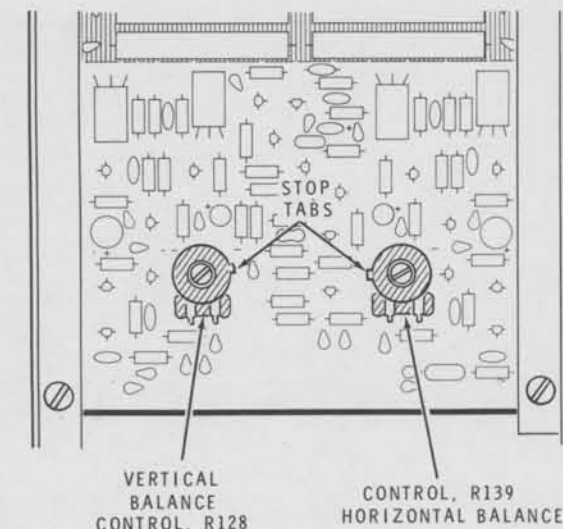

Figure 2-2
Refer to Figure 2-2 (fold-out from Page 65) for the following adjustments.
- () Slowly turn the HORIZONTAL GAIN control clockwise. The spot should now become a horizontal line or trace. **NOTE:** If the trace expands in only one direction, refer to Figure 2-2 and adjust the HORIZONTAL BAL control slightly until the line expands equally in both directions. This adjustment is not critical at this time.